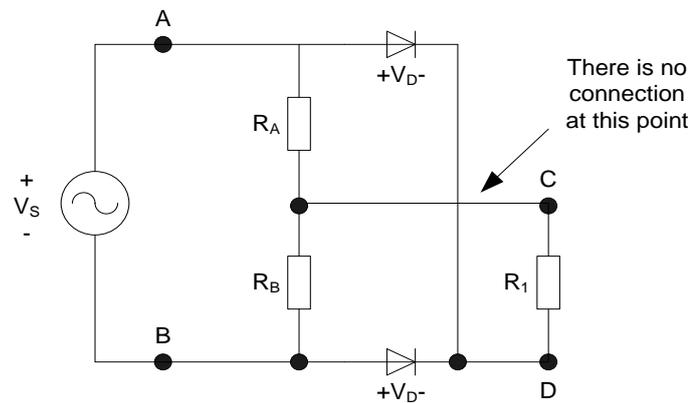

Figure 2: Full wave rectifier circuit
- A full wave rectifier will be constructed by adding a second diode to the circuit as shown in Figure 2 below.
- Construct the circuit of Figure 2 on your breadboard, where $R_A = R_B = 560\Omega$ and are resistors that provide a mid-point reference node at C. $R_1 = 10k\Omega$, and C is the earth point. Connect V_s to your circuit, but do not use the scope to measure it, as the scope's earth will affect what is displayed on the output, so it is only necessary to measure the output, using the procedure outlined above.